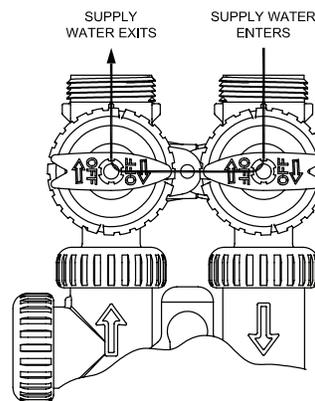
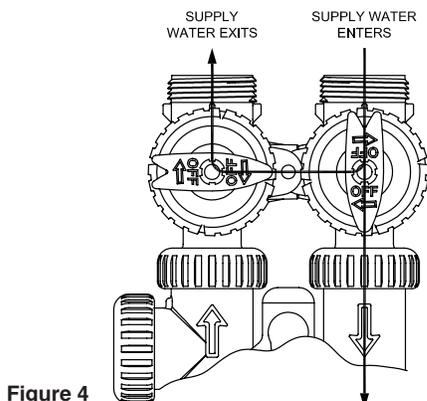

Figure 3
Figure 4
2. Place the bypass valve in the bypass position. (See figure 3 page 4) Turn on the main water supply. Open a cold soft water faucet to flush the piping of any air and/or foreign material. Run until the water is clear.
6. Push REGEN button and hold it down for 3 seconds. The system will advance to the "First" position. (Note: Depending on how the system is programmed it could read backwash, rinse, brine or fill). Pushing REGEN button until "Rinse" shows in the left upper hand corner of display. Slowly place the bypass into the "diagnostic mode" (see fig 4, page 4). Run water to the drain until it runs clear. Return the bypass valve to the by-pass position (fig 3, page 4). Push REGEN button until unit is back to softening mode. **Repeat with second tank.**